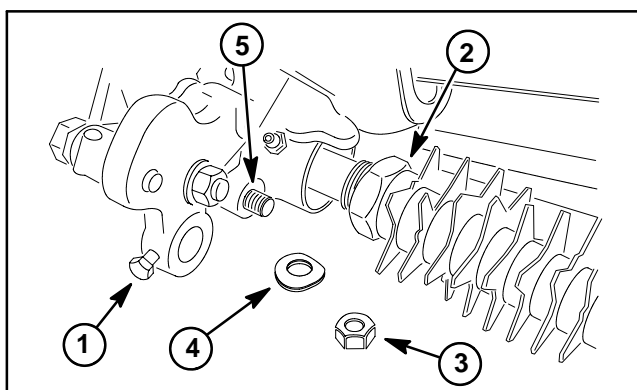

Figure 19
B. Remove lock nut and spring washer that secure LH groomer arm lift rod to LH support plate (Fig. 19). Remove support plate from cutting unit.
C. Place spring washer and lock nut on lift rod threads (Fig. 19). Tighten lock nut.